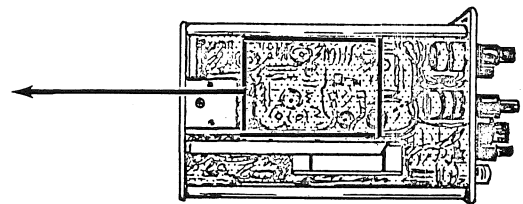
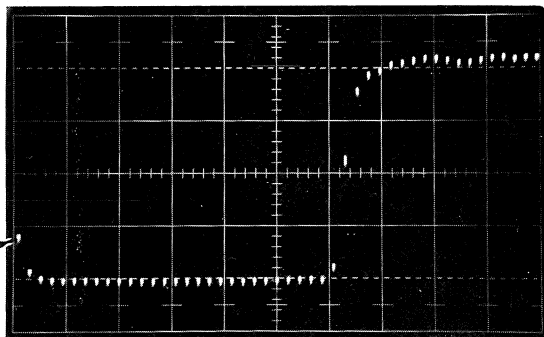

Figure 5-36
Figure 5-37
- a. Adjust the REPETITION RATE control to MAX (CW).
5. Adjust C136 (see figure 5-36) so the first dot of the display is flat with the following dots (see figure 5-37, 5-38 and 5-39 next page).